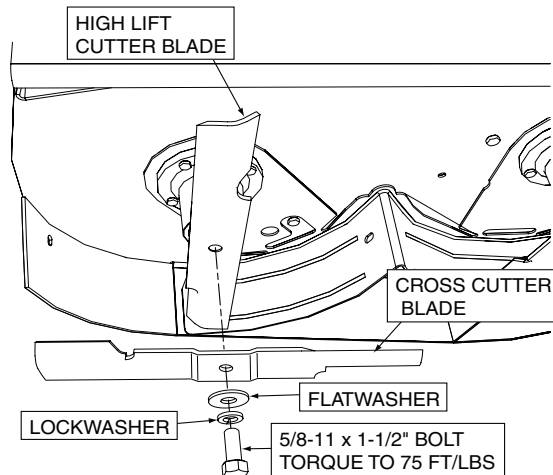

Figure 2-11. High Lift Cutter Blade Installation
7. Install the new cutter blades included with the Installation Kit and secure using the hardware removed in Section 2.1, Step 4. On the right side of the cutter deck, install the cross cutter blade below the high lift cutter blade as shown in Figure 2-11. Use optional Blade Buddy tool P/N 9212 to assist in securing the cutter blades.